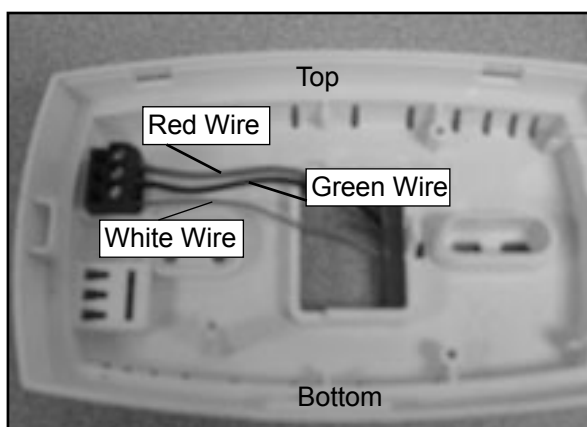

Figure 35.1- Back Side of Wall Control with Cover Off
5. Attach the wall control wire to the thermostat wall control. Follow the directions on page 35. Do not pinch the control wires with any staples between the fireplace and wall control. **Figure 35.1 on page 35.**